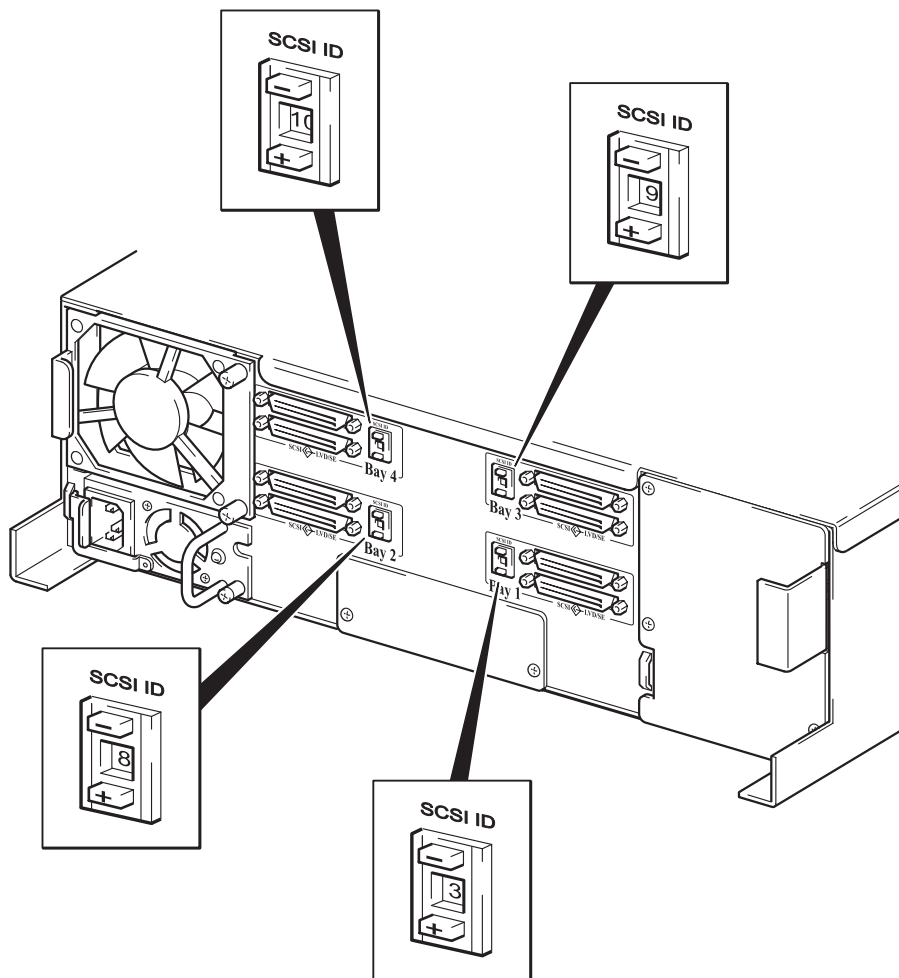

Figure 2: setting the SCSI ID
- 2 Set the appropriate switch, as shown in figure 2. If you daisy-chain devices, make sure that devices are of the same SCSI type and that each device on the same SCSI bus has a unique SCSI ID. Do not daisy-chain more than two devices on the same SCSI bus.